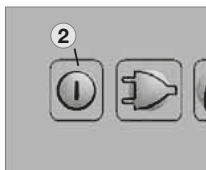

Fig. 35
- Switch off MES and AES models by pressing button (2). Keep button (2) pressed for 3 seconds. The display disappears and the appliance is fully switched off (Fig. 35).